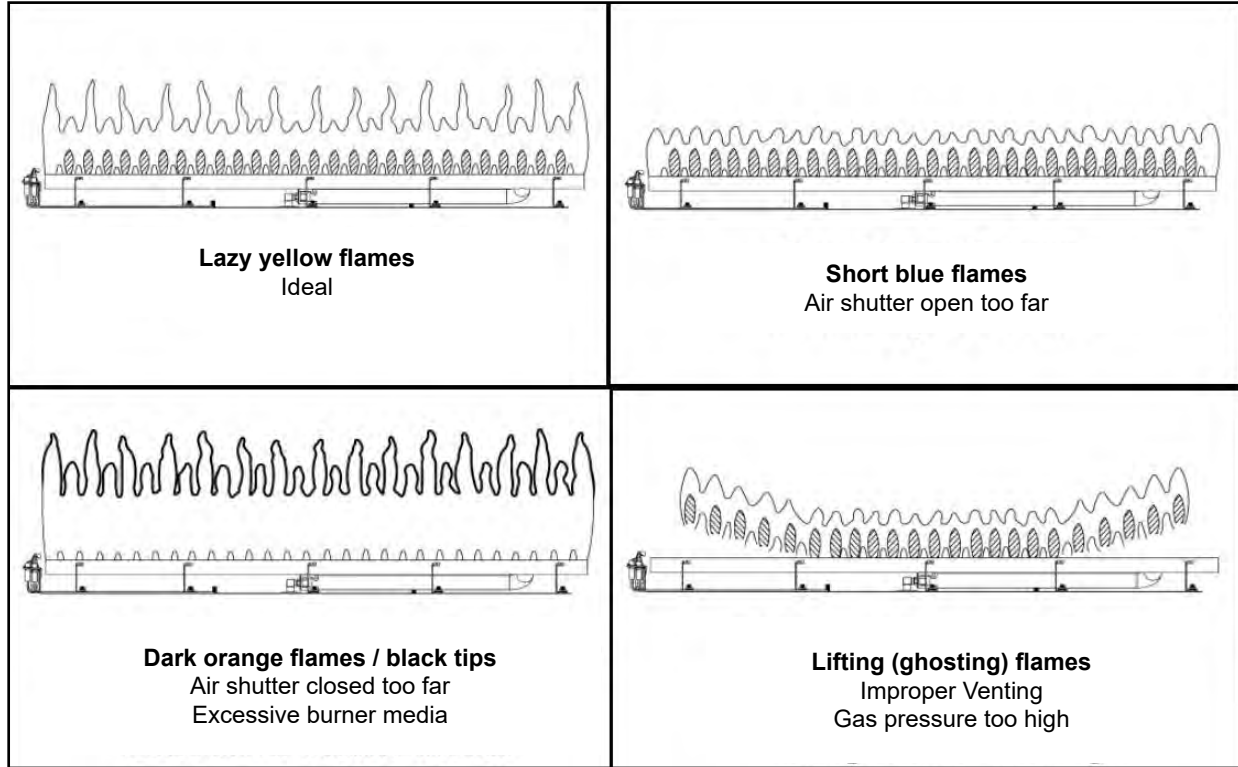
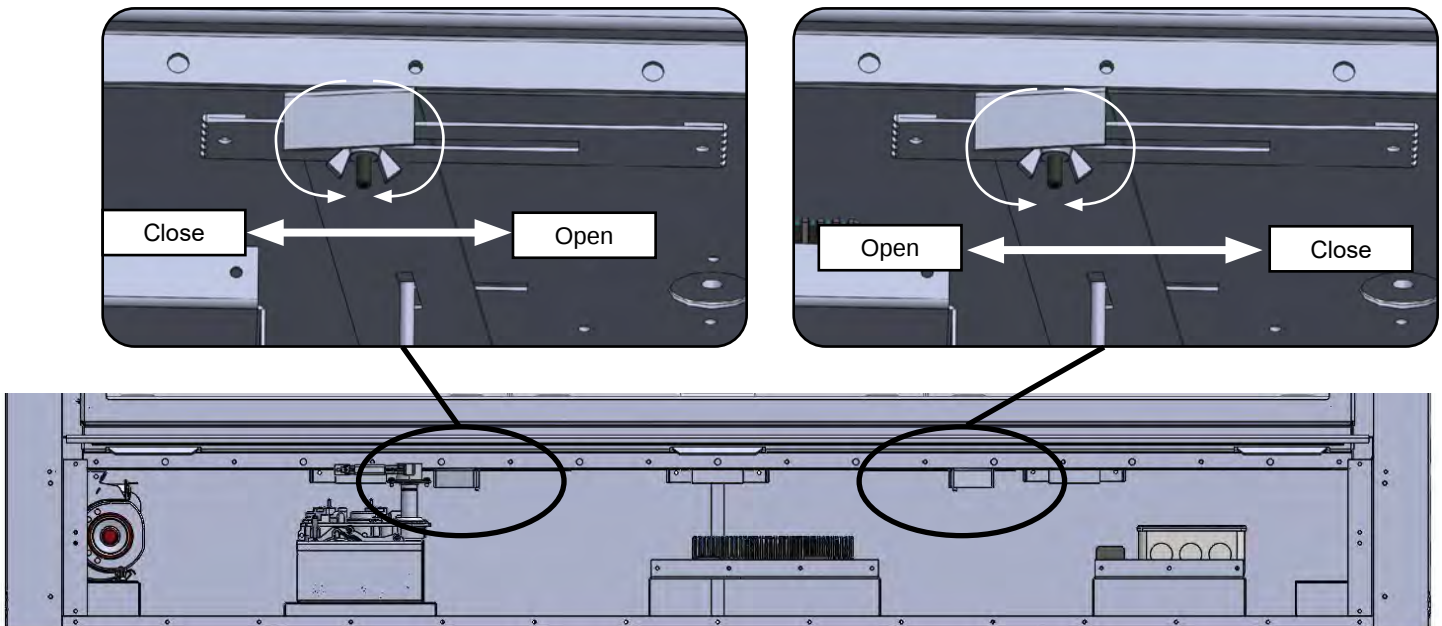

Figure 18.5.01:
Figure 18.5.02:
- Inspect and ensure the lighting of the main burner occurs within 4 seconds of the main gas valve opening. Flames should match those shown in **Figure 18.5.01**
The 50-DVTE36CN-1 includes an air shutter located under the door of the fireplace which may be used to adjust the primary air to achieve the ideal flame as shown in **Figure 18.5.01**. To adjust, loosen the wing nut on the air shutter and adjust as shown in **Figure 18.5.02**. To open the air shutter and increase air flow to the burner, slide the air shutter to the left. To close the air shutter and decrease air flow to the burner, slide the air shutter to the right.